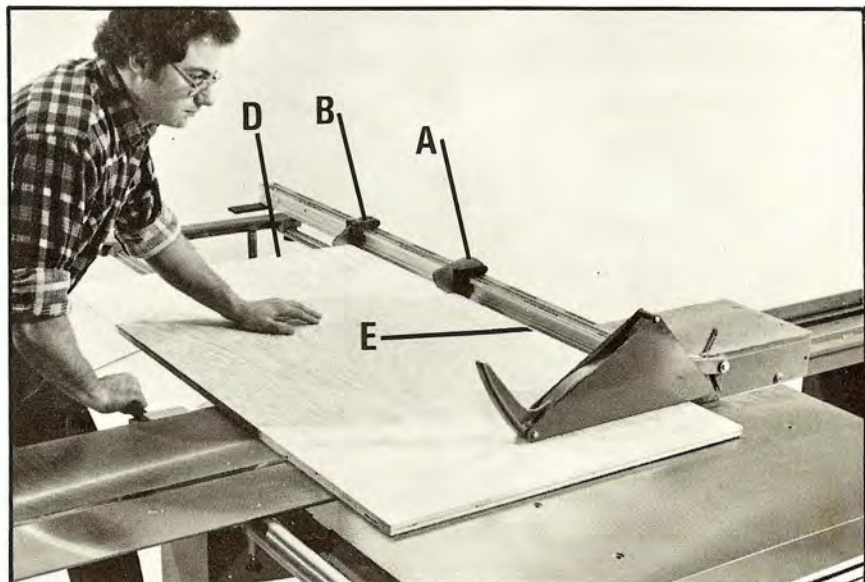

Fig. 52
4. Now cut the finished length by placing edge (D) which was cut in STEP 2 against stop finger (B) fig. 52, and edge (E) which was cut in STEP 3 against fence. Note that stop finger (A) Fig. 52, is depressed.